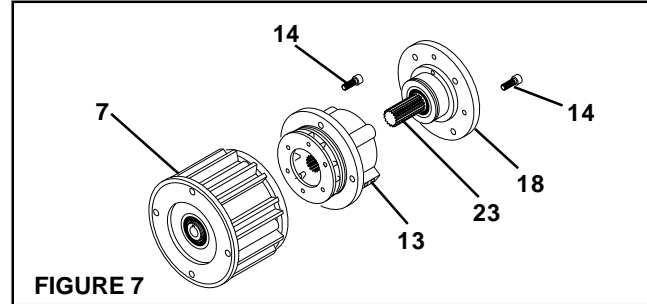

FIGURE 7
1. Remove the four Socket Head Cap Screws (Item 14) and separate the Air Chamber (Item 13) from the Housing (Item 7) (See Figure 7).
2. Remove the four Socket Head Cap Screws (Item 14) securing the Male Pilot (Item 18) to the Air Chamber (Item 13) (See Figure 7).
3. Remove the Male Pilot (Item 18) and Stub Shaft (Item 24) from the Air Chamber (Item 13) (See Figure 7).
22. Apply a drop of Loctite[®] 242 to the threads of the Socket Head Cap Screws (Item 14) (See Figure 7).
23. Reinstall and tighten the four Socket Head Cap Screws, securing the Air Chamber (Item 13) to the Housing (Item 7) to the recommended torque (See Figure 7 and Table 5).